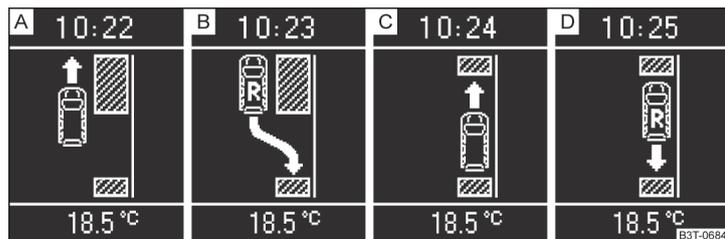

Fig. 150 Display
If the system has recognised a suitable parking space, this parking space is shown in the display » Fig. 150 - [A].
- Continue driving forwards until the display appears » Fig. 150 - [B].
- If the arrow in the display flashes forward » Fig. 150 - [C], then select the 1st gear or move the selector lever into position **D**.
- If the backwards arrow is flashing in the display » Fig. 150 - [D], select reverse gear again or move the selector lever into position **R**.